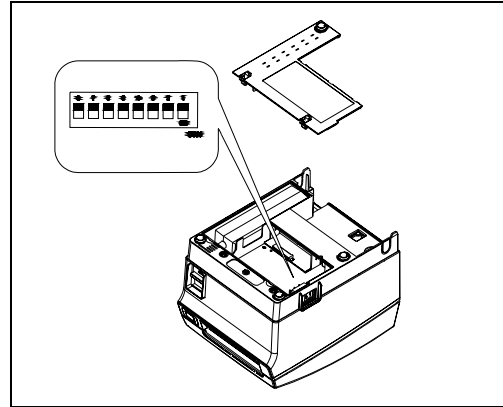

Figure 2-9 Setting the DIP switches
2. Flip the DIP switches using tweezers or another marrow-ended tool. Switches are in when up and off when off down in the Figure 2-9.